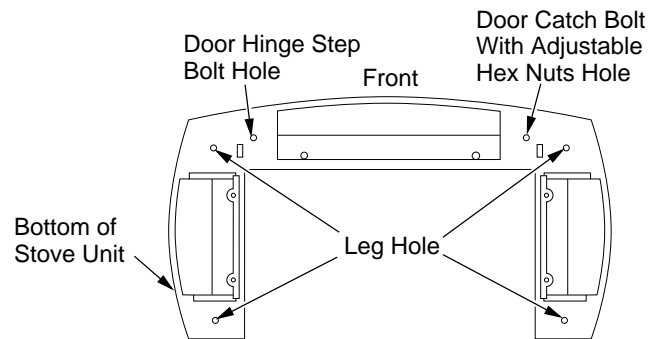

Figure 9 - Locating Threaded Holes for Legs and Door Attachment
9. Fasten each leg to stove with four (4) M8 x 1.25 - 20mm bolts. Use a flat washer and lock washer with each bolt. Tighten bolts into threaded holes on stove body (see Figures 9 and 10). Use an adjustable wrench or a 12mm and 6mm socket.
10. Attach stove door by inserting step bolt through door hinge pivot hole and into threaded hole in stove body (Figure 11 on page 7 and Figure 9). Use an adjustable wrench or a 12mm socket to fasten step bolt. Tighten step bolt until snug. Make sure door moves freely.
11. Install door catch bolt (M8 x 1.25-55mm with two M8 hex nuts) into threaded hole on stove body (see Figure 9). Use an adjustable wrench or a 12mm socket. The catch bolt has two hex nuts attached to it (see Figure 12, page 7). The top nut is a bolt stop and the bottom nut is for door leveling adjustment.